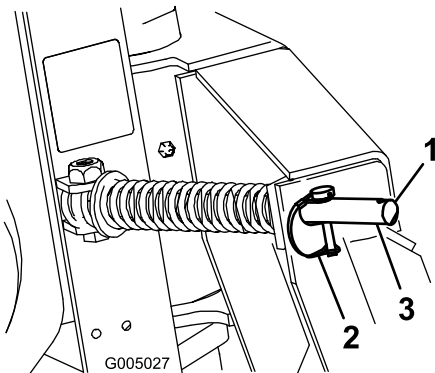

Figure 6
- Move the lynch pins to the outside holes on the spring rods to allow the plow to move from side to side (Figure 6).
1. Move the lynch pins to the inside holes on the spring rods to prevent side-to-side movement (Figure 6).